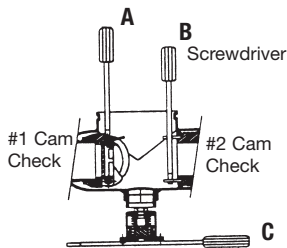

Figure 3
- Remove #1 Cam-Check Assembly by using your hands to unscrew (turn counter-clockwise) Cam-Check and remove through top access port. **Do not use Cam Arm as a handle to unscrew Cam-Check.** If Cam-Check cannot be loosened by hand, insert a long screwdriver between valve body and Cam-Check (see figure 3). Gently apply pressure against the Cam-Check until loosened. Finish unscrewing by hand. Unscrew #2 Cam-Check (turn counter-clockwise) by placing a long screwdriver across lugs and applying pressure to loosen #2 Cam-Check. Finish unscrewing by hand.